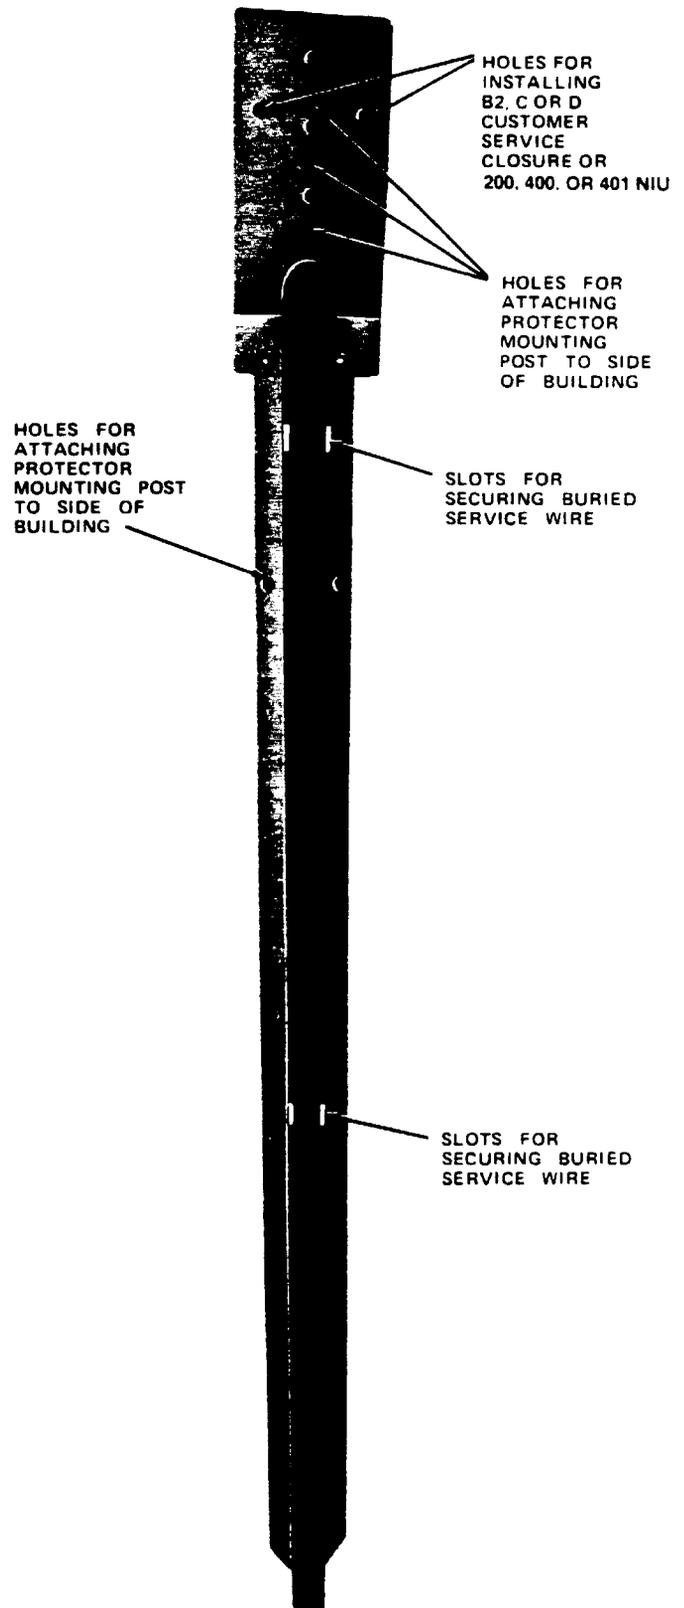

Figure 19—Protector Mounting Post (PMP)
3.40 The protector mounting posts (PMP-38 [Figure 19] and PMP-50) are designed to mount a 125EW-type protector, or a B2, C, or D customer service closure, or network interface unit, where protectors are served by buried service wire. The PMP is available in 38-inch and 50-inch sizes to suit various conditions. It can be installed freestanding at the edge of a mobile home or can be installed on the side of a permanent building or a power service entrance conduit. When used freestanding, the PMP must be in the ground a minimum of 12 inches. *The PMP is not a ground rod.*